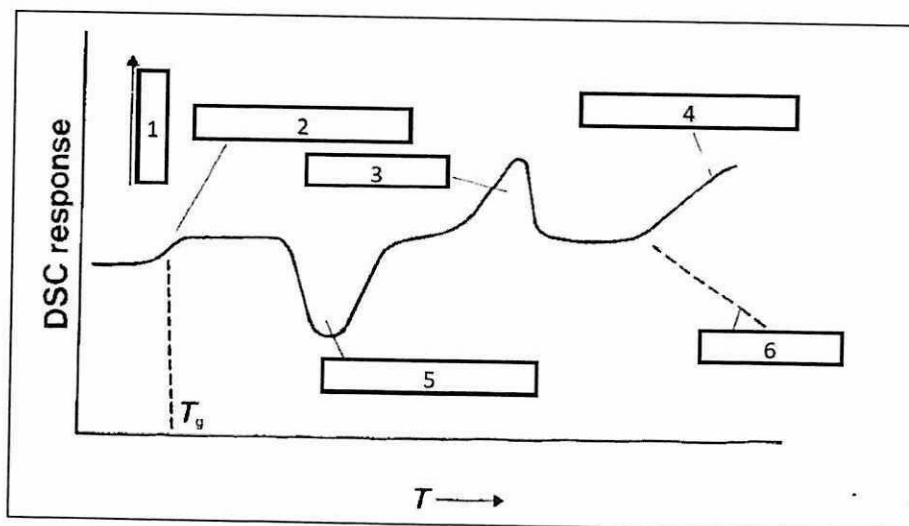

Figure Q6.2.
- (d) Evaluate the typical plot for thermal analysis of Differential Scanning Calorimeter (DSC) in polymer sample as shown in **Figure Q6.2**. (6 marks)